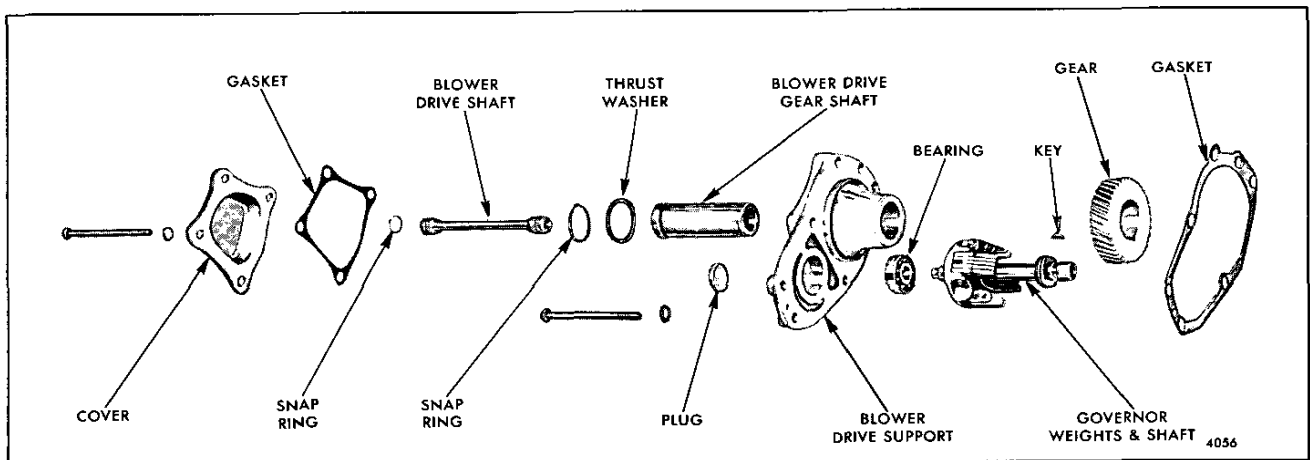

Fig. 12 – Blower Drive Support Assembly Details and Relative Location of Parts
1. Remove the snap ring and the thrust washer from the blower drive gear shaft (Fig. 12). Slide the shaft and gear from the blower drive support.
Refer to Fig. 12 and assemble the blower drive as follows: